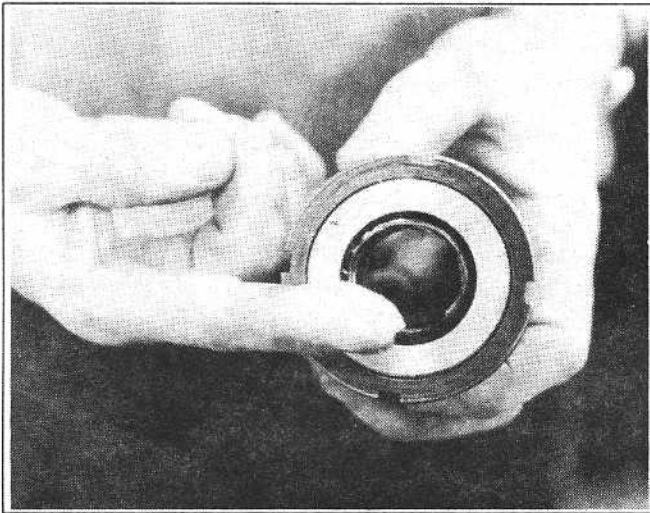

Figure 4-3
4. Assemble the rod wiper into the wiper groove (the outer groove in the gland). The lip side of the wiper is to face the outside when looking at the threaded end of the gland. This wiper can easily be assembled by hand (See figure 4-3)